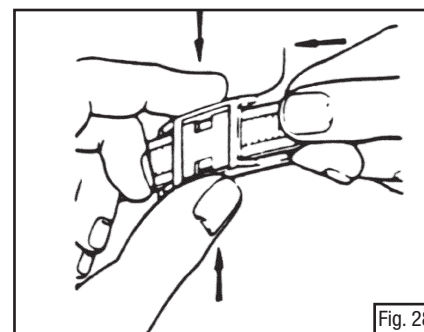

Fig. 28
- Squeeze both edges of the buckle to open the headband (Fig.28).